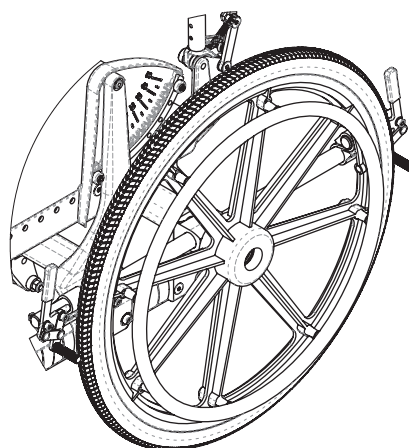

Figure 14.33: User Wheel Locks and Attendant Wheel Locks
4. To engage the attendant wheel lock in the User and Attendant Wheel Lock option (see Figure 14.33), follow the step 3 instructions, follow the instructions corresponding to the user wheel lock type (i.e. Push to Lock or Pull to Lock).